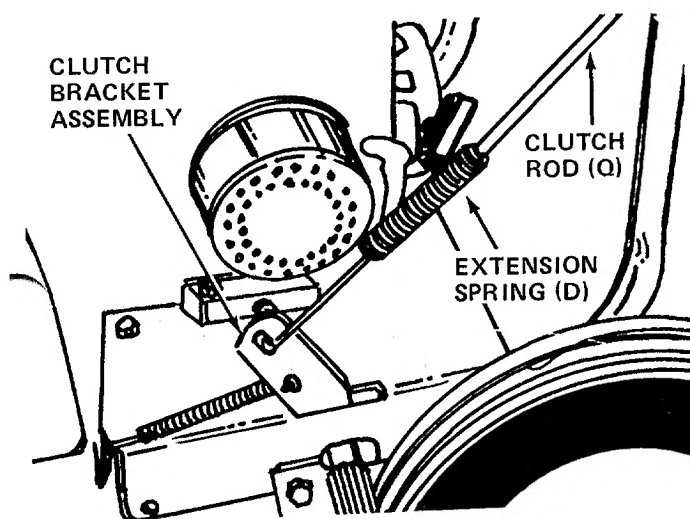

FIGURE 11
8. Hook top (hooked end) of clutch rod into clutch grip. Hook spring into clutch bracket assembly. See figure 11. Spring should not have any slack. Adjust nut so that when the clutch grip is all the way up, there is no slack in the spring.
9. Thread hex jam nut (M) onto clutch rod, and lock it against the lock nut (E).